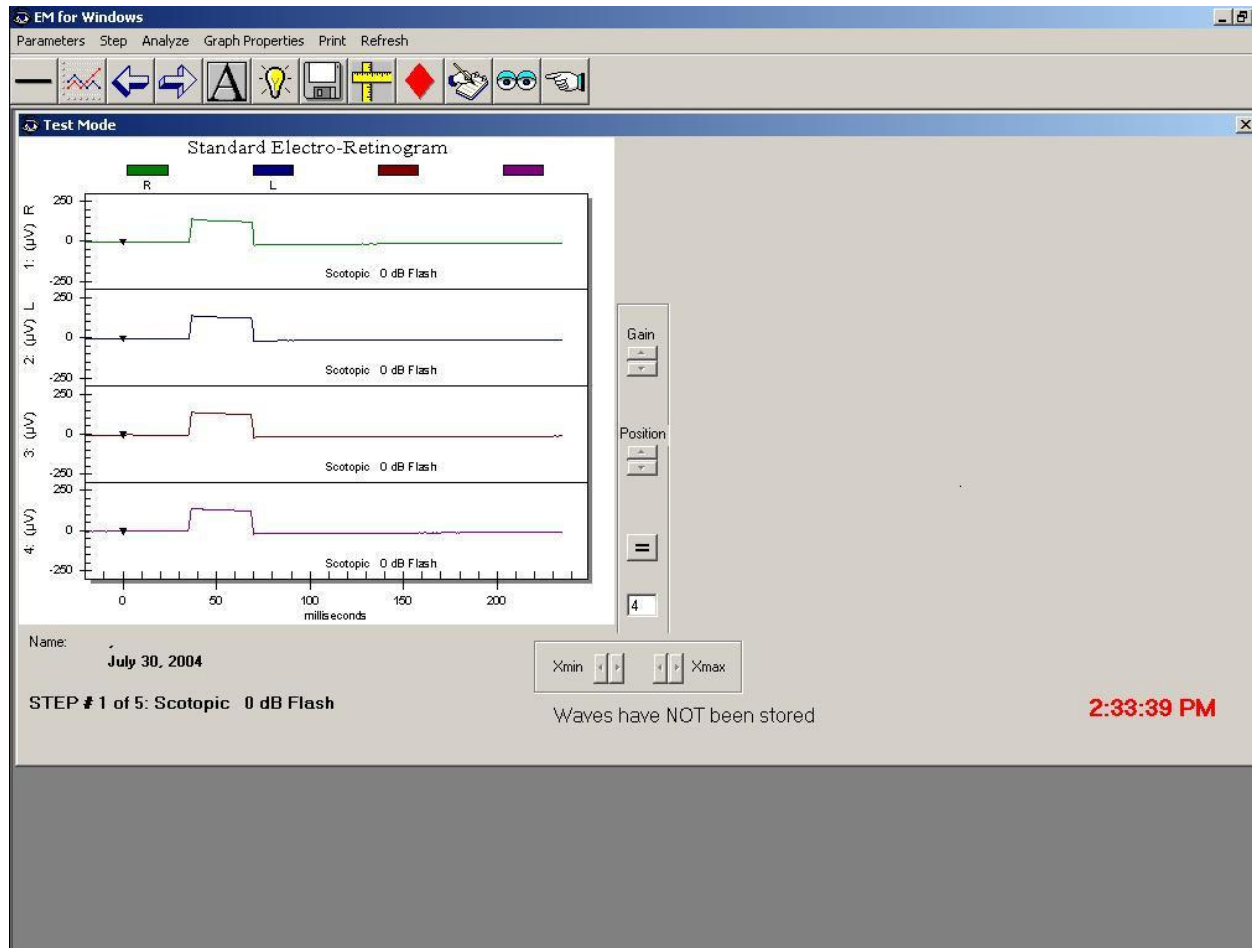

Figure 5.2.2 Gain Calibration
- 5) The pulses caused by the calibrator for both channels 1 and 2 displayed on the screen are as shown in **Figure 5.2.2**. Amplitude for both pulses should be $150 \mu\text{V} \pm 10 \mu\text{V}$. If not, adjust trim pots R55 and R109 on the Patient Amplifier board for channels 1 and 2 respectively until the gains are correct.